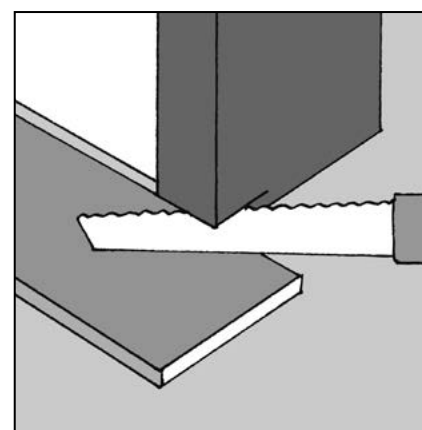

Figure 57 Door Frames/Architraves
- ▶ When installing interlocking flooring around a door frame, or architrave cut into the door frame or architrave with a handsaw; using an off cut plank as a guide for the height and the amount to trim off the door frame (Fig 57). Slide the cut piece under the door frame. Leave a minimum 2mm gap between the top surface of the plank and the underside of the door frame/architrave to allow for any natural movement of the panels.